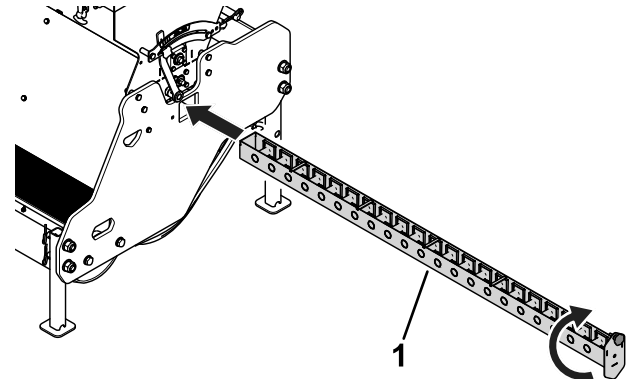

Figure 12
4. Rotate the seed tray 90° and slide it back into the machine (Figure 12).